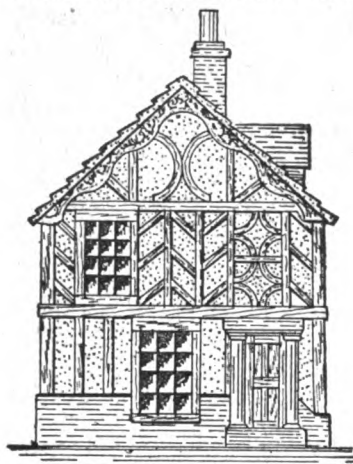

FIG. 1
**Sham Timber Building.**—The usual way to get an appearance of old-fashioned timber work on a house is by nailing boards on the brickwork to represent the framed timber and plastering the intervening spaces flush with the wood; the plaster to be afterwards whitewashed, and the boards painted a dark brown. Tolerably stout deal boards should be used, and for plaster, Portland cement, with a fair proportion of sand, is advised. The arrangement of the sham timbers is a matter of taste; but suggestions are given in Figs. 1 and 2. By the "look-out